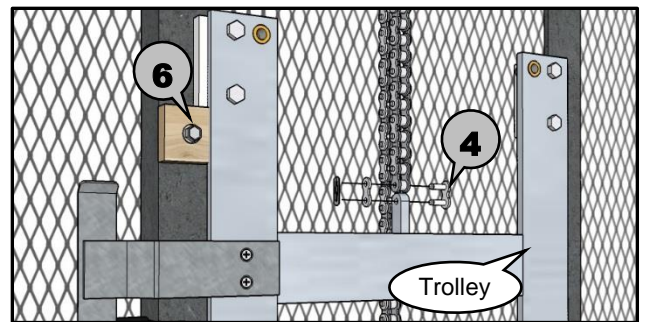

Figure 11
- 4** Use provided master link, attached near the top of the trolley with a plastic tie, to connect chain to top end of trolley. (see Figure 11)
- 6** Some machines may have a trolley stop screwed to the track for shipping purposes, and it should be removed at this time. (see Figure 11)
- 6** Some machines may have a trolley stop screwed to the track for shipping purposes, and it should be removed at this time. **(see Figure 11)**